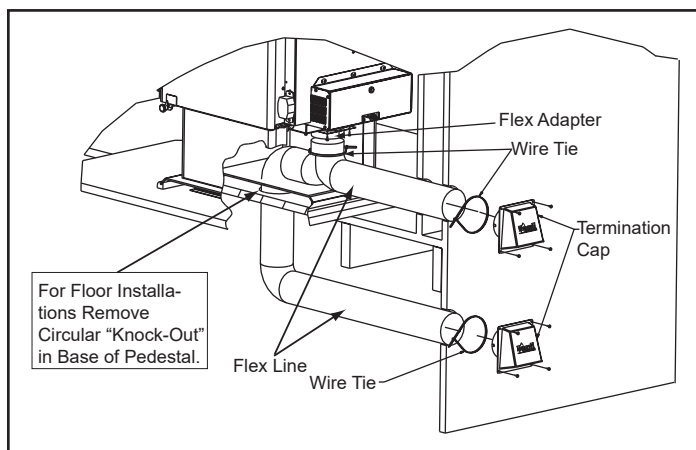
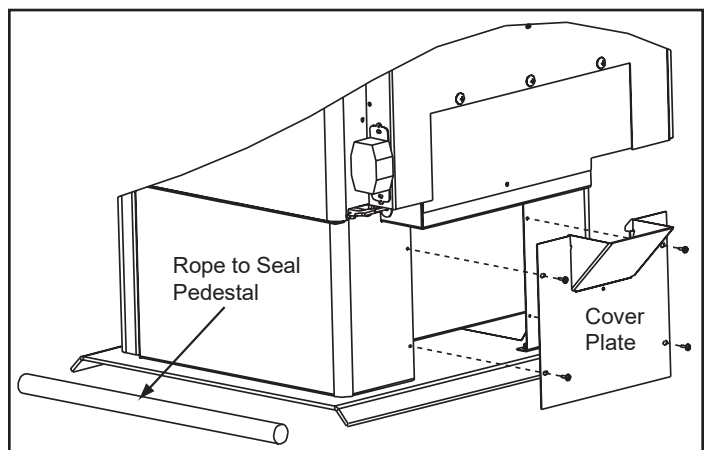

Figure 16.1 - Floor & Rear Installation
Figure 16.2
Included in SRV7033-041: Cover plate and sealing rope (see Floor Installation Alternative below, **Figure 16.2**)
2. Using a #2 Phillips screw driver attach the flex adapter to the appliance using 4 screws (**Figure 16.1**)
5. **Floor Installation Alternative:** In some instances you may not be able to install the flex pipe as show in **Figure 16.1**. If that is the case, you will need to order SRV7033-041 which includes a cover plate and sealing rope as shown in **Figure 16.2**. The goal is to seal the pedestal so no room air can leak into the pedestal or for cold air infiltration.